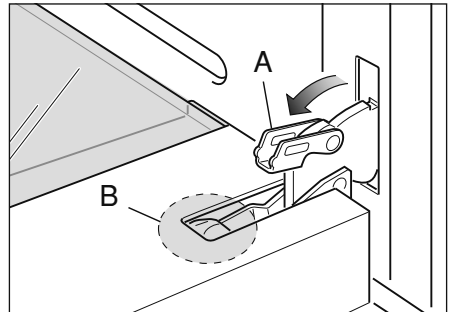
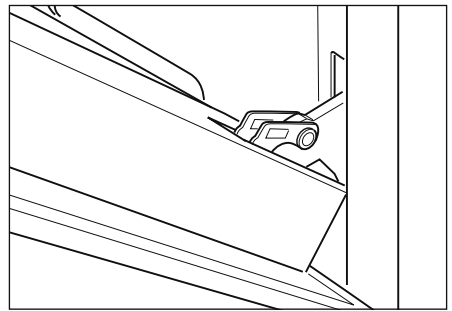

Fig. 35b
Fig. 35c
- Fully open the lever "A" on the left and right hinges (Fig 35b).
- Gently close the door (Fig. 35c) until the left and right hinges are hooked to part "B" of the door (Fig. 35b).